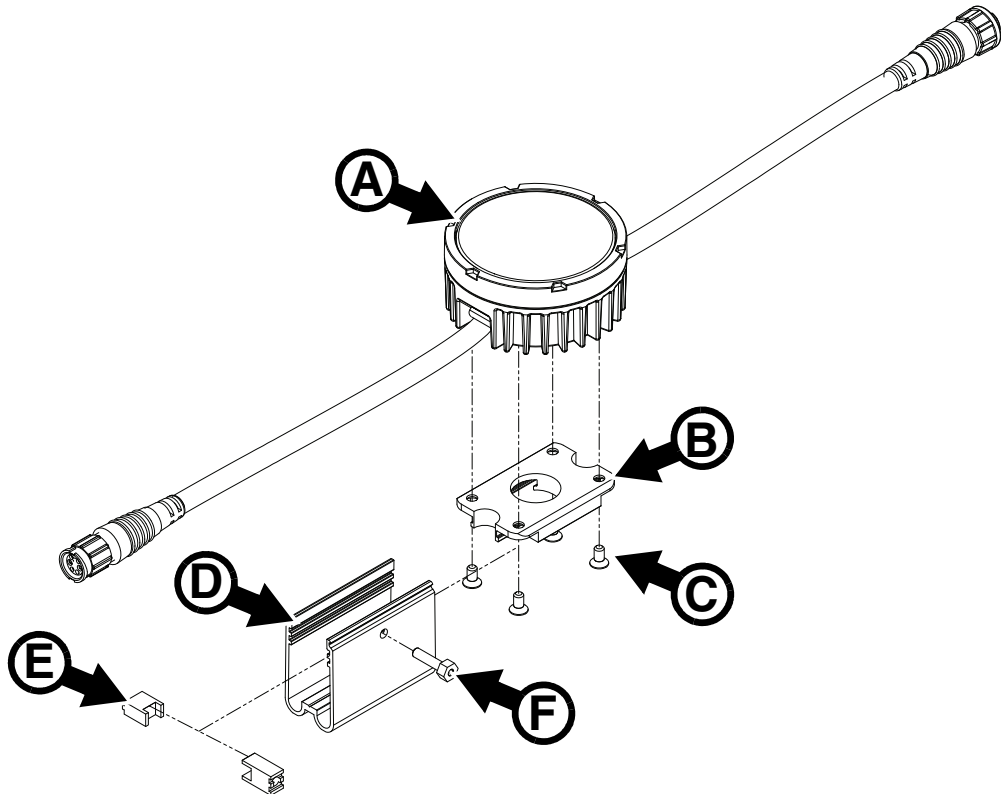

Figure 4: Installation with a mounting profile
See Figure 4. Each mounting profile kit includes:
1. See Figure 4. Fasten each dot **A** to a mounting profile bracket **B** using the four screws **C** supplied.
5. If you are going to install the dot now, apply a small quantity of Loctite 243 to the threads of the locking bolt **F** (if you are going to install the dot in the profile later, apply the Loctite when you install the dot). With the two halves of a lock **E** assembled as shown in Figure 4 and located in the grooves in the mounting profile, tighten the bolt **F** through the mounting profile and into the lock finger-tight only.